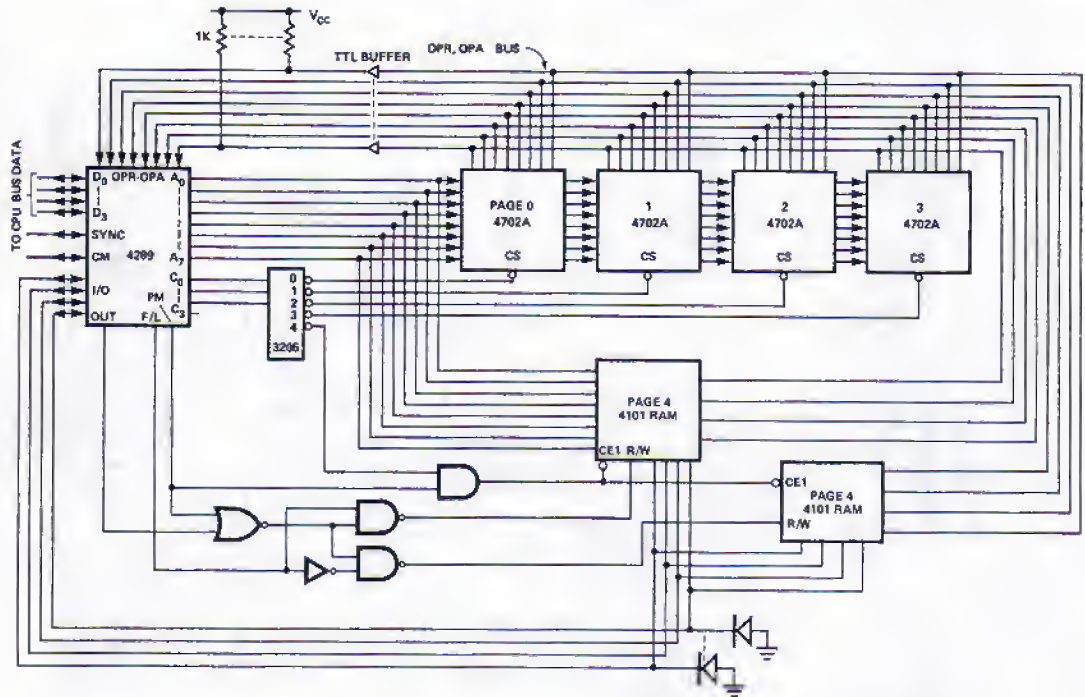

Figure 2. PROM and RAM System.
2. Standard PROM and RAM Memory System (Figure 2). This system again contains 4 pages of PROM storage but, in addition, has one page of RAM storage which can be used for either PROGRAM or DATA storage by using the WPM/RPM instructions. (The RPM instruction is valid only with the 4040.) The RAM storage has been implemented with two 4101's (256 x 4 static RAM). Notice that separate WRITE ENABLE signals must be generated for the upper and lower half-bytes of RAM.